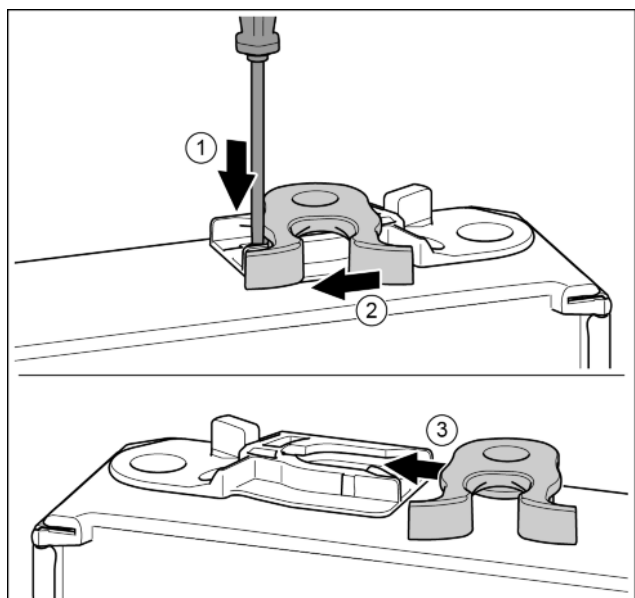

Fig. 14
- ▶ Push the tab downwards with a slotted screwdriver. Fig. 14 (1)
- ▶ Pull the door latch out of the guide. Fig. 14 (2)
- ▶ Push the door latch into the guide on the other side. Fig. 14 (3)